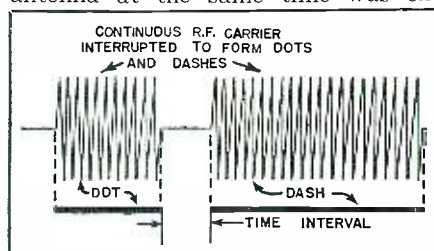

Fig. 1. Typical wave-form of dot-dash.
In the amplitude modulation system of radio transmission there are two methods by which code messages may be transmitted. The high-frequency carrier wave (whose frequency is that assigned to the Transmitter) may simply be started and stopped by a transmitting key to form signals of short duration (*dots*) and of longer duration (*dashes*) in accordance with a pre-arranged code system of dots and dashes to form letters of the alphabet. Fig. 1 shows graphically what this "keying" does to the wave. The transmitting key is depressed for a fraction of a second for a "dot" signal, then left open for a fraction of a second and then depressed for a period about three times as long as the first for a "dash" signal.
lated continuous radio frequency carrier "keyed" to transmit a dot and a dash. Since the received signal is already modulated, the desired audio frequency to actuate the earphones or loudspeaker is produced in the receiver without need for the local oscillator that is necessary in the continuous wave (CW) system described previously. A commercial transmitting "key" for code transmission in the systems of Figs. 1 and 2 is illustrated in Fig. 3.